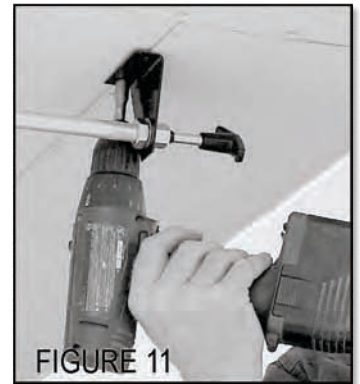
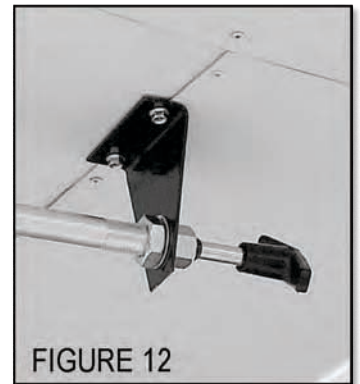

FIGURE 11
FIGURE 12
11. Attach the remote cable bracket (the part with the T-handle on the end of the cable) and the 2 self tapping screws. Choose a location under the trailer overshoot that will allow the screws to penetrate the framing of your trailer. **(See Figure 12)**. DO NOT rely on only penetrating the trailer skin, or the cable handle will work free. We recommend you keep this mounting spot within 24 inches of the trailer centerline to assure that the bracket and T-handle have sufficient clearance from the tow vehicle side boards to avoid crushing them when on uneven terrain or when turning. Secure the handle bracket to the frame with the self tapping screws **(See Figure 11)**. Do not leave the remote cable assembly flopping loosely in your tow vehicle bed. It will inevitably get snagged on something and become damaged.